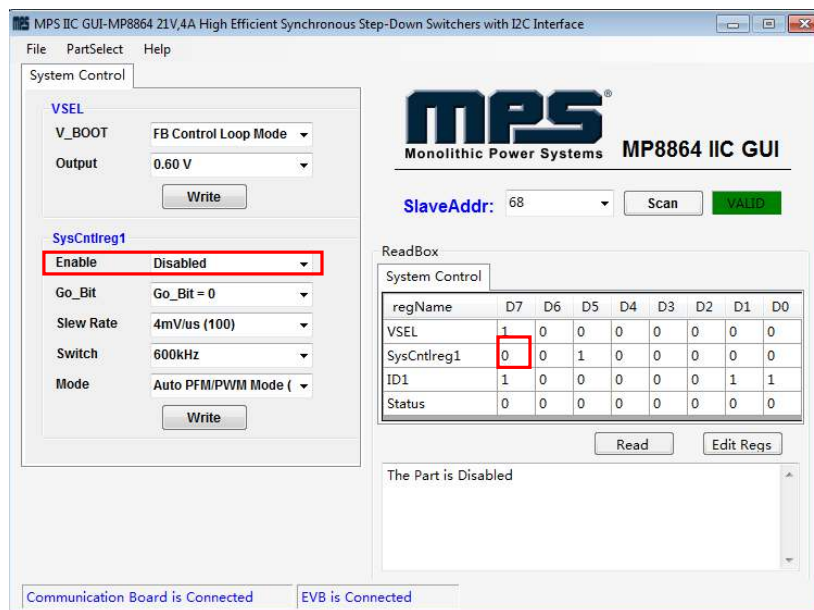

Figure 10: Refer to Datasheet to Translate 0's and 1's
5. Click the “**Read**” button to update values. The changed information of the item will appear on the right side (see Figure 10).